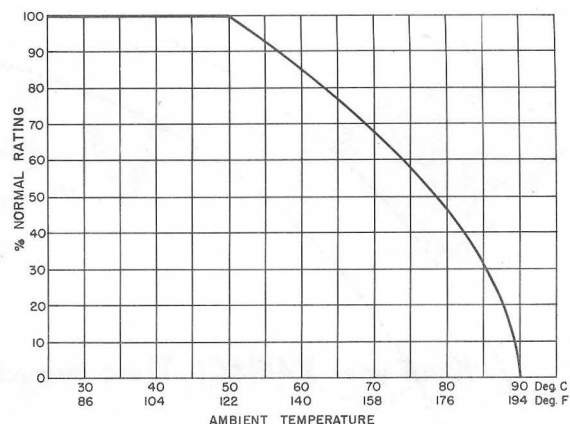

Figure 2
3. For continuous 24-hour-per-day duty, rated current should not be exceeded. For ambient temperatures above 50°C., the Variac should be derated according to the curve of Figure 2.